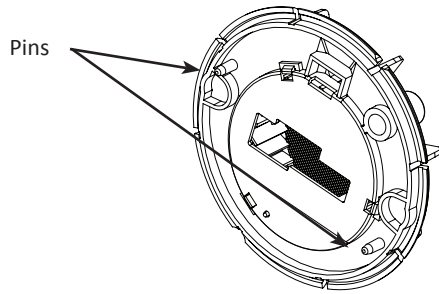

FIGURE 6
- Line up the two pins on the back of the optic cage base to the pin holes on the circuit board to place the optic cage base on the circuit board (FIGURE 6)